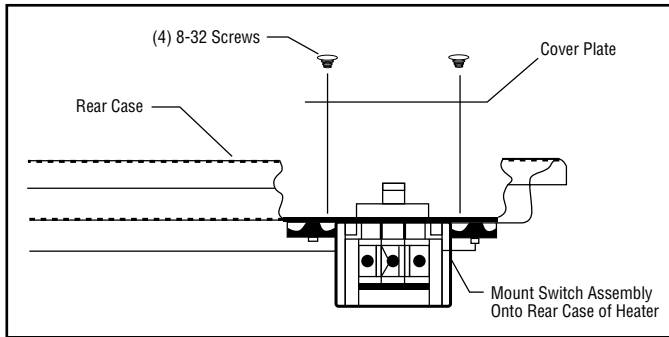

Figure 7
8. The cover plate should be placed over the rectangular opening with its four mounting holes lined up with the four holes in the cabinet and the four holes in the mounting bracket (see Figure 7).